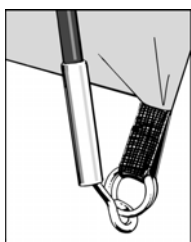

Figure 1.
- Locate one end of each diagonal pole onto pin system at groundsheet corners (see figure 1).
1. Locate one end of each pole onto the corresponding metal pin. The metal pin inserts into the hollow metal ferrule on the end of each pole. **(See Figure 1)**. Push the pole into a curve from the opposite side, one at a time, and locate all pole ends onto the metal pins.